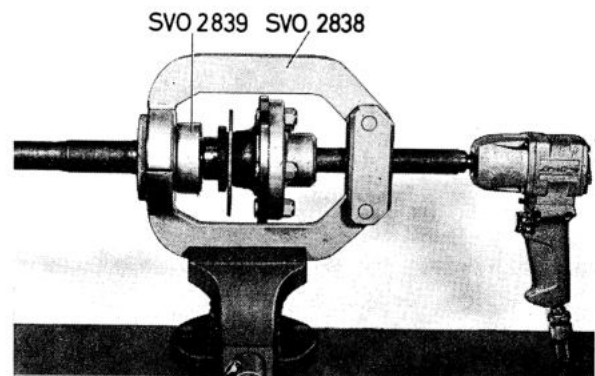

Fig. 4-135. Fitting the drive shaft bearing
- Place fitting ring SVO 2839 against the bearing and the lock ring. Close the tool arms and lock them round the fitting ring, see Fig. 4-135. Press on the bearing and lock ring by screwing in the spindle.